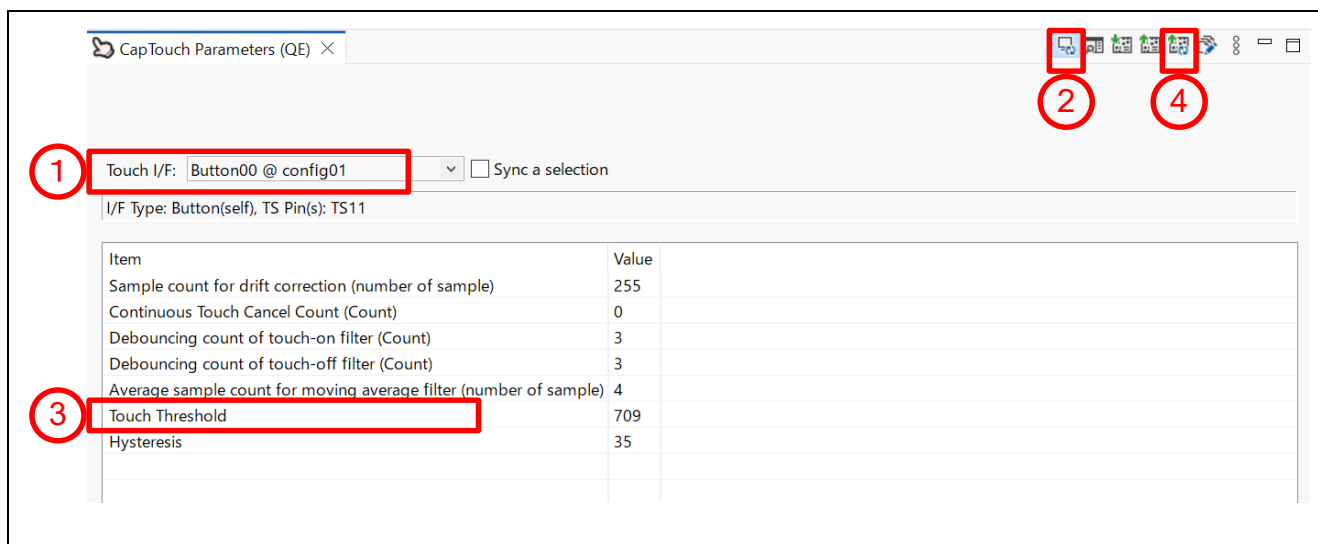

Figure 5-3 Sensitivity adjustment window using the monitoring function
The settings for steps 1 to 4 above are performed in steps ① to ④ in Figure 5-3